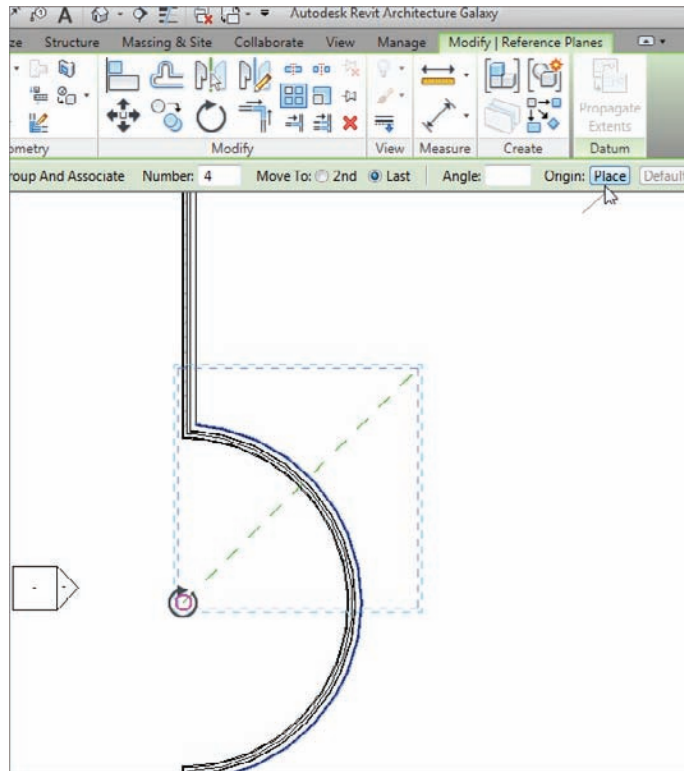

FIGURE 4.13 Place the pivot icon on the endpoint of the item being arrayed.
8. On the Options bar, click the Place button. It is located next to the word Origin, as shown in Figure 4.13.
9. Click the center/endpoint of the reference plane, as shown in Figure 4.13.